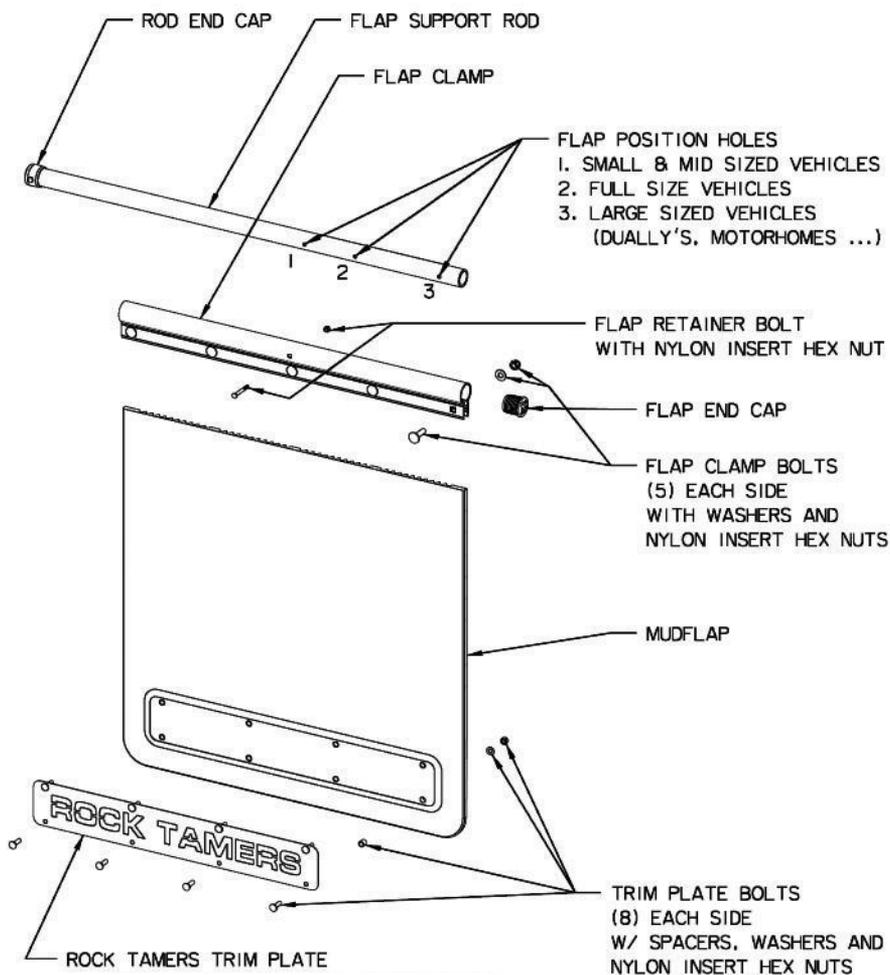

**Figure 1**
- Refer to **Figure 1** for component names and general definitions. Names in ALL CAPITALS refer to parts named in the illustrations.
Finally, insert the small M5 FLAP RETAINER BOLT through FLAP CLAMP and SUPPORT ROD and attach the M5 NYLON INSERT HEX NUT. **Figures 1 & 6.**
- Tighten the large CENTER HUB M18 ARM PIVOT BOLTS. (1500 in-lbs torque [27mm socket or wrench]). **Figure 1.**
22. Complete the assembly by inserting the FLAP END CAPS into the FLAP CLAMPS. **Figure 1.**